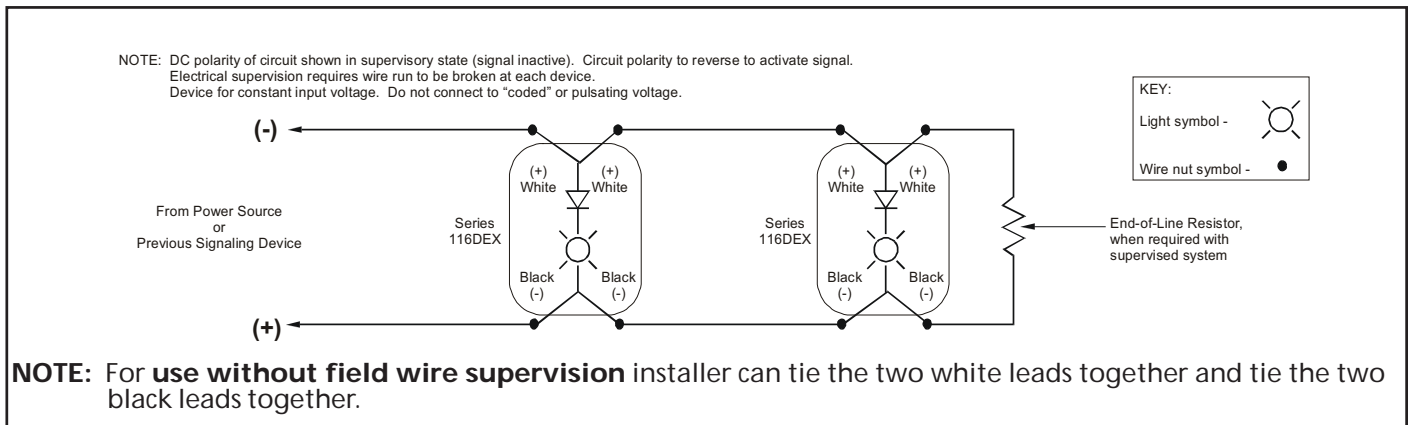

Figure 6. Wiring Diagram
3. Wire the unit in accordance with Figure 6. See Table 2 for required supply wire temperature ratings.